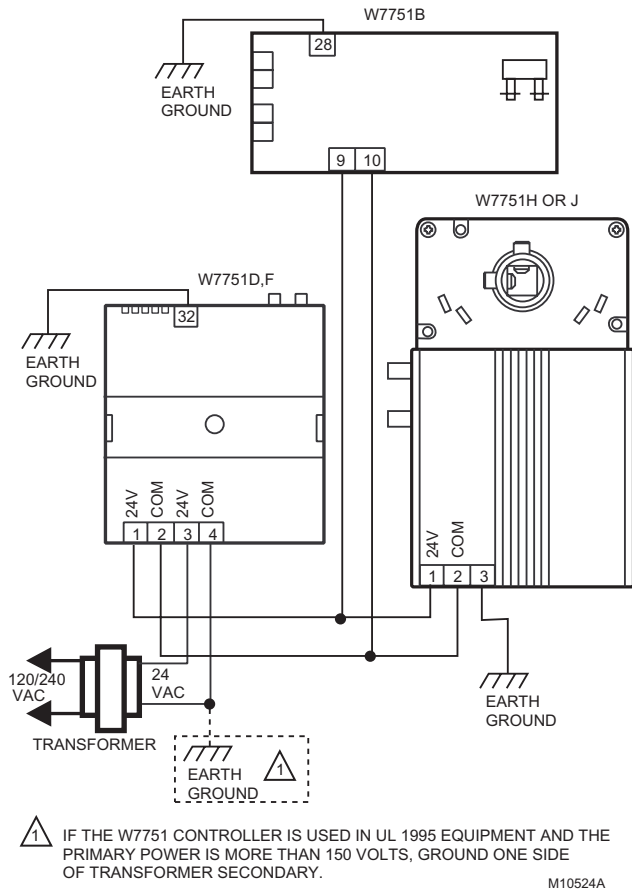

Fig. 10. Power wiring for multiple controllers.
- For multiple controllers operating from a single transformer, the same side of the transformer secondary must be connected to the same input terminal in each controller and the ground terminals (3 on the W7751H, 28 on the W7751B, and 32 on the W7751D,F) must be connected to a verified earth ground for each controller in the group. See Fig. 10. (Controller configurations are not necessarily limited to three devices, but the total power draw including accessories cannot exceed 100 VA when powered by the same transformer. See System Engineering form 74-2949 for power wiring recommendations.)
- If the W7751H Smart VAV Actuator is used on **Heating and Cooling Equipment (UL 1995, US only)** and the transformer primary power is more than 150 volts, connect the transformer secondary to earth ground, see Fig. 10.
- 24 Vac power connections. Verify multiple controllers being powered by the same transformer are wired with the transformer secondary connected to the same input terminal numbers on each W7751. See Fig. 10. (Controller configurations are not necessarily limited to three devices, but the total power draw including accessories cannot exceed 100 VA when powered by the same transformer. See System Engineering form 74-2949 for power wiring recommendations.)
- Controller wiring. Be sure that each controller is wired (terminal 3 on the W7751H, 28 on the W7751B, and 32 on the W7751D,F) to a verified earth ground using a wire run as short as possible with the heaviest gauge wire available, up to 14 AWG (2.0 mm2) with a minimum of 18 AWG (1.0 mm2) for each controller in the group. See Fig. 10.